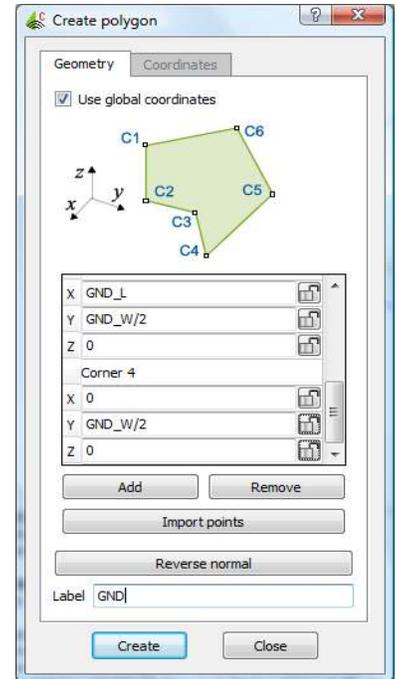
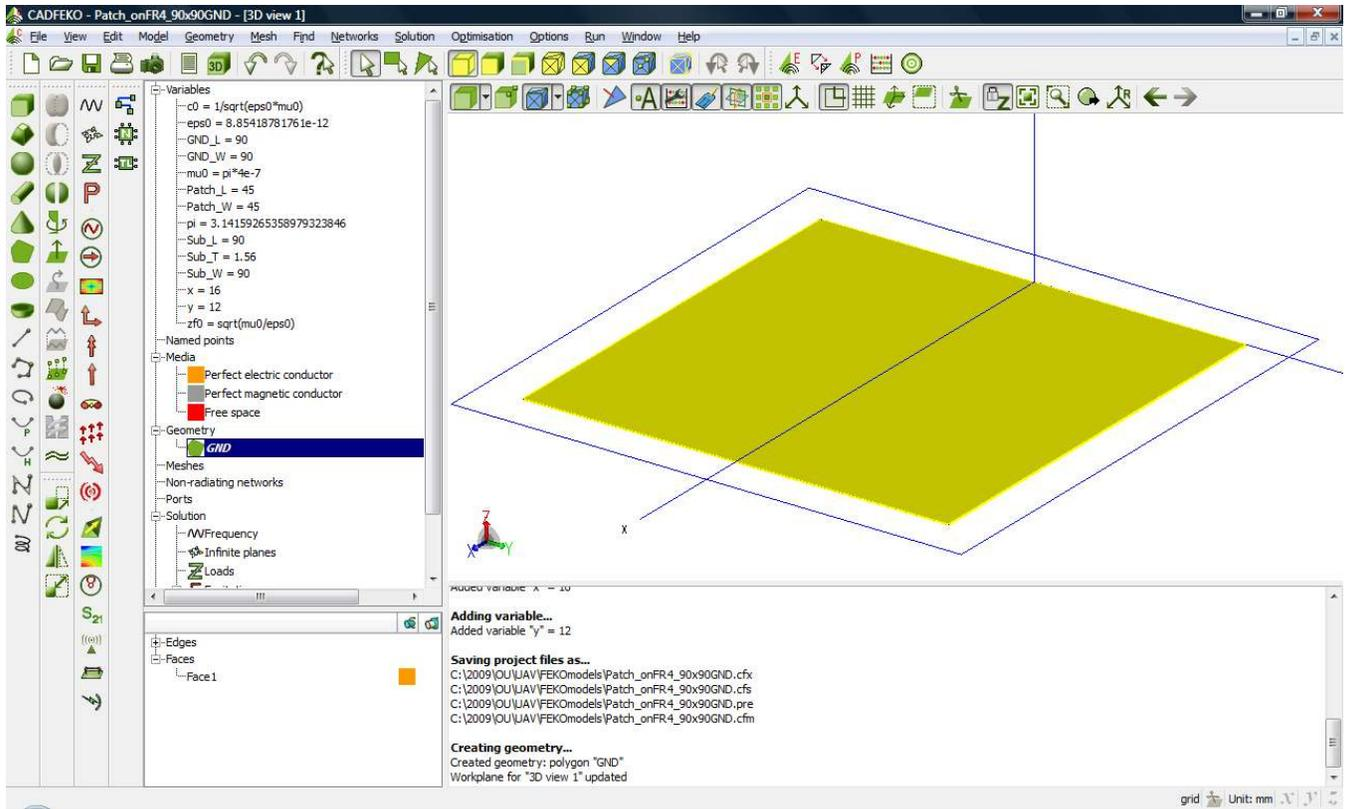

Figure 4.
Figure 5.
Name this polygon “GND”. This is illustrated in Figure 4.
7. After clicking “Create” in Figure 4 you will see the GND plane placed on the co-ordinate system as shown in Figure 5 (do not forget to Zoom To Extents).